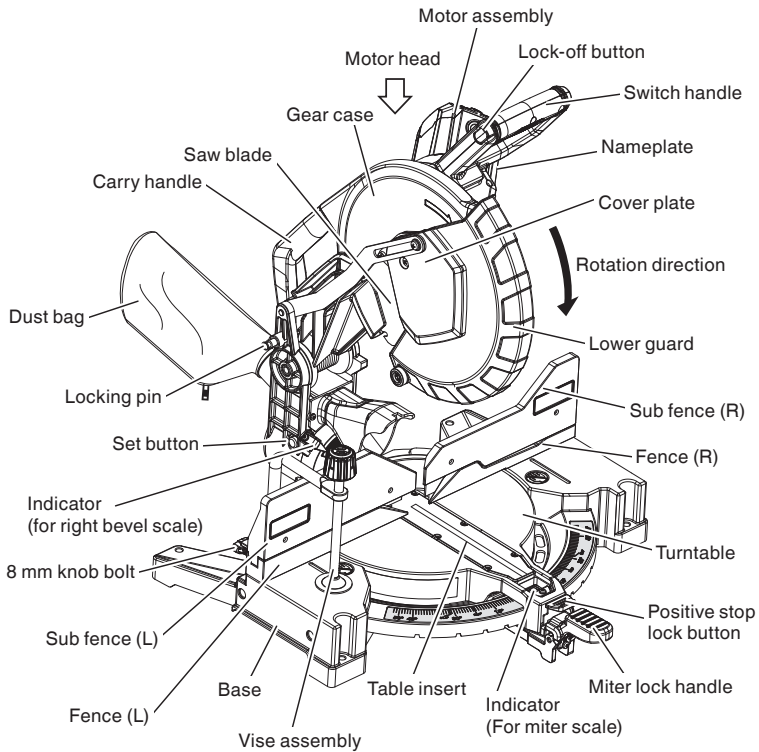
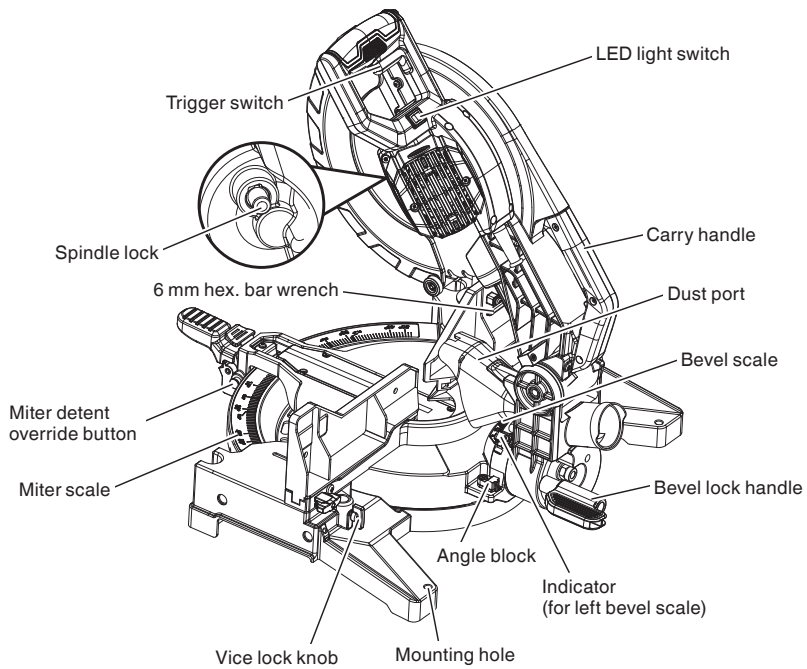

Fig. 1
Fig. 2
Attach the sub fence (L), dust bag and vise assembly as indicated in Fig. 1 and Fig. 2.
(Attach the vise assembly as shown in Fig. 1, Fig. 2 and Fig. 18.)
After installing the saw blade, confirm that the spindle lock has been returned to the released position before using the power tool (see Fig. 2).